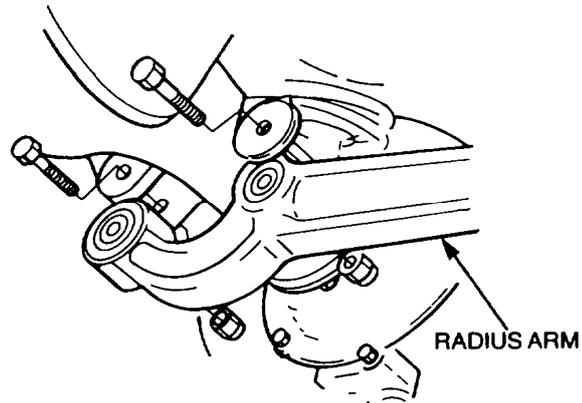

Figure 149 Radius Arm Removal
- h. Remove the locknuts and bolts, securing the radius arms to the axle case (Figure 149). Discard the locknuts.